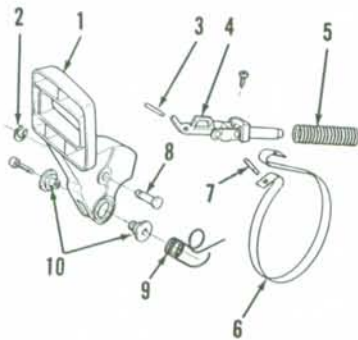

Fig. H48A—Exploded view of latest style chain brake mechanism used on some models.
**CHAIN BRAKE.** Some models may be equipped with a chain brake system designed to stop chain movement should kickback occur. Several types of chain brake systems have been used. Refer to Fig. H47, Fig. H48 and Fig. H48A for exploded views of different styles of brake mechanisms used.
The chain brake is activated either by the operator's hand striking the hand guard (1) or by sufficient force being applied to the guide bar tip during kickback to cause the front handle to contact trigger lever (6—Fig. H47) on early models, trigger button (9—Fig. H48) or trigger assembly (4—Fig. H48A) on later models, resulting in automatic activation of brake mechanism.
No adjustment is required for chain brake shown in Fig. H48A.